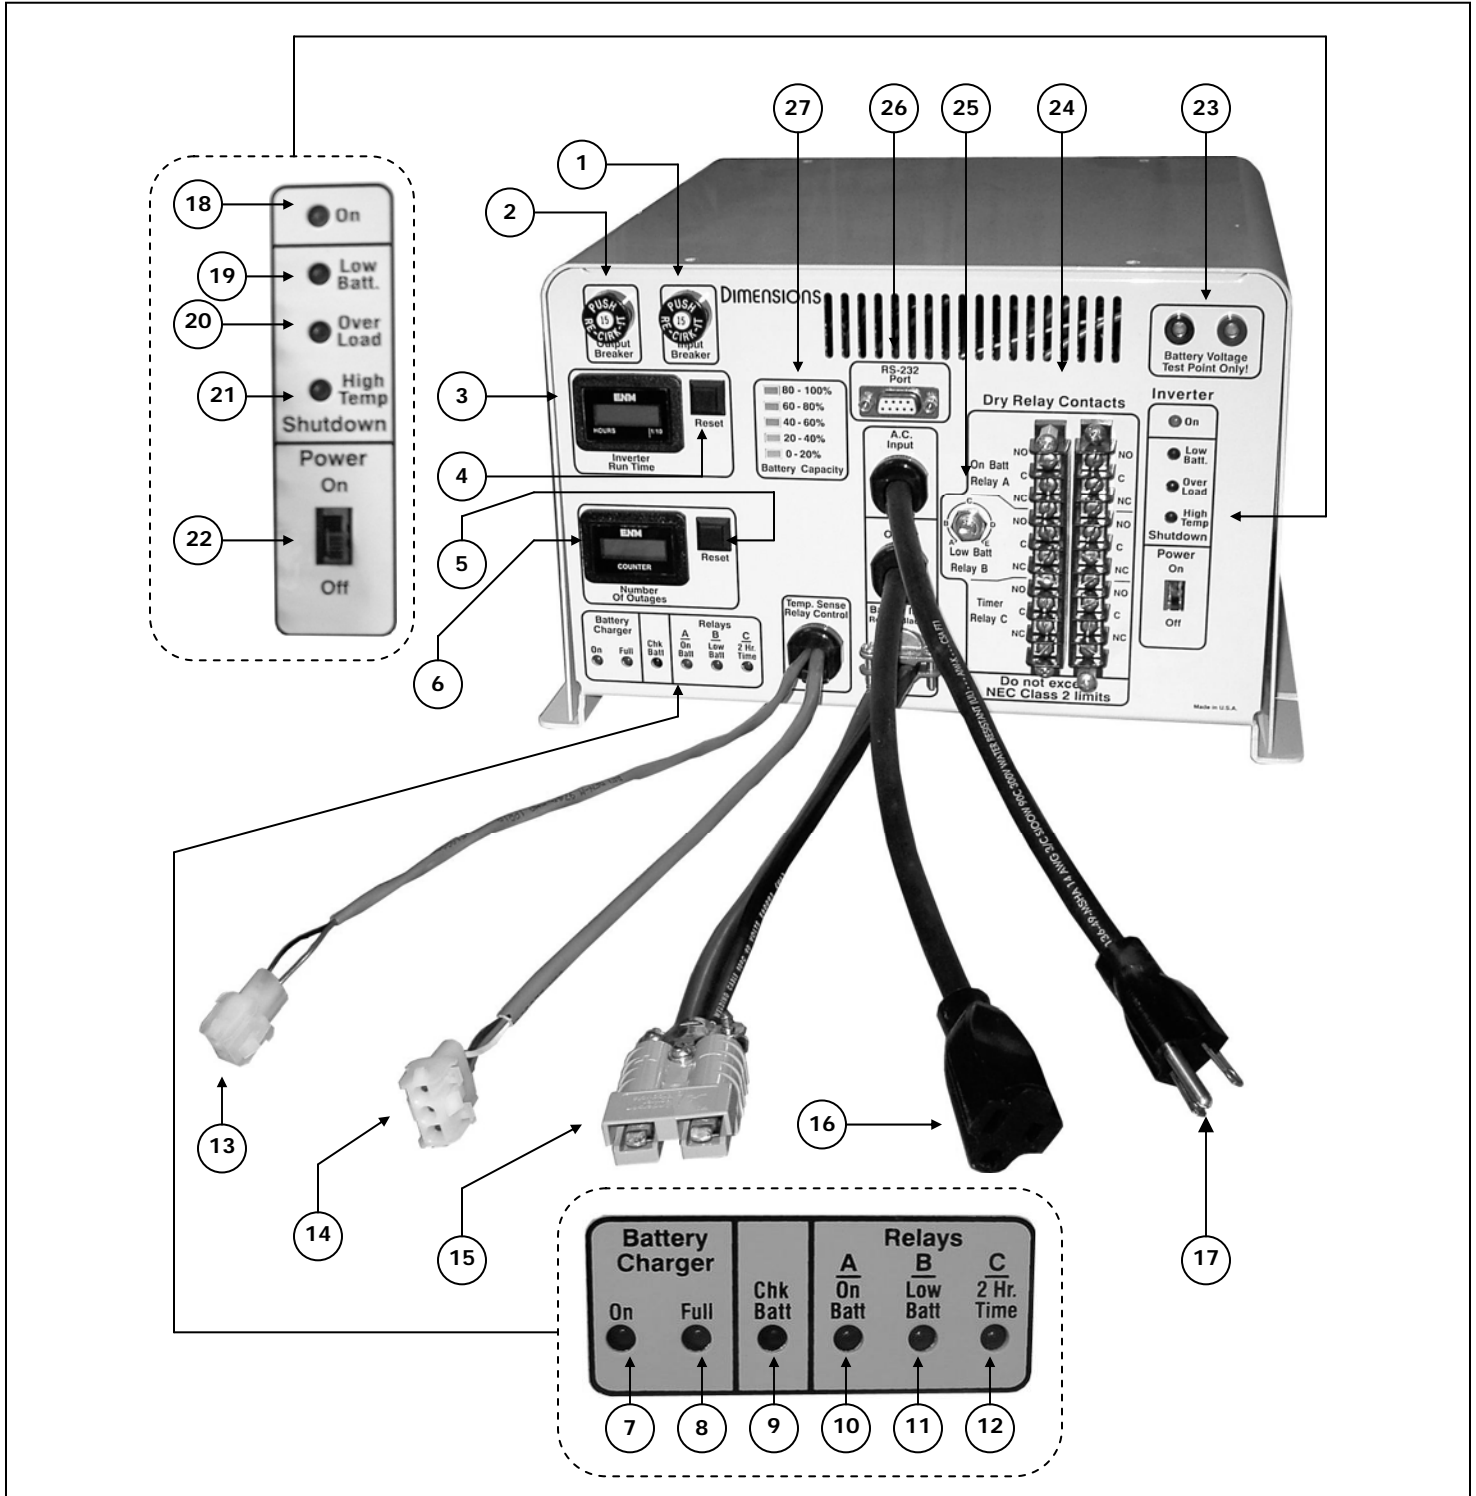

FIGURE 1: BBS Module model ADI-24J11 physical description front and rear view
- (28) **AC Outlet Cord:** Connects to item (17) on Figure 1, page 5
- (29) **Indicator Light:** Lights to indicate the switch is in the bypass mode.
- (30) **Terminal Connector Board:** AC Wiring connector board
- (31) **Bypass Switch:** Used to isolate the BBS system from external AC power during routine maintenance.
- (32) **Transfer Relay Connector (30ATR):** Connects to item (14) on Figure 1, page 5 to drive the 30-amp relay.
- (33) **AC Input Plug Cord:** Connects to item (16) on Figure 1, page 5